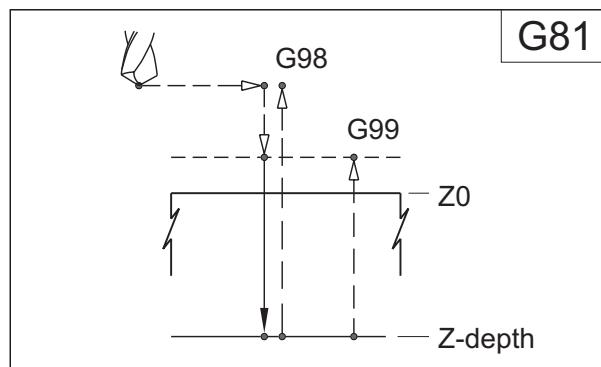

Figure 25-8
**WHEN TO USE G81 CYCLE - Figure 25-8 :**